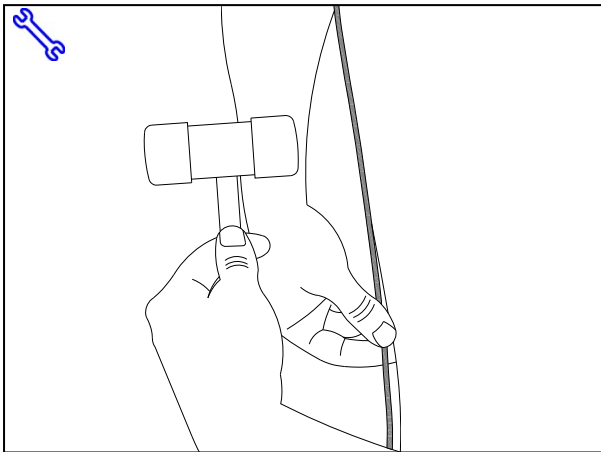

Fig. 1-12
- (n) Once the top of the DEG channel is seated on door edge, continue tapping the channel onto door edge moving toward the bottom of the DEG. Use your other hand to steady and guide the DEG as you go. (Fig.1-12)